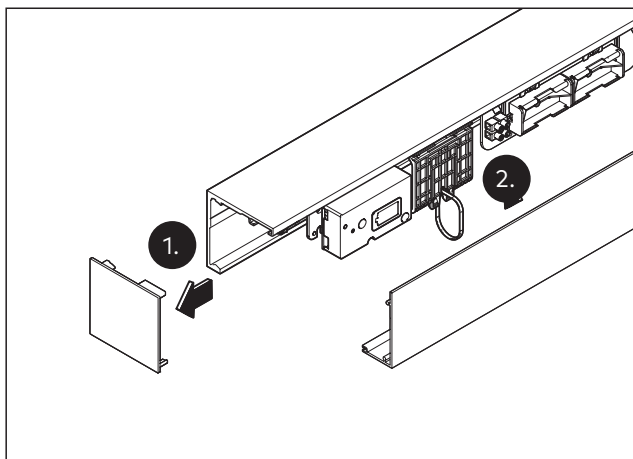

Fig. 7 Remove the end cap and the cover profile
1. Remove the end caps (Fig. 7/1) and the cover profile (Fig. 7/2) from the track.